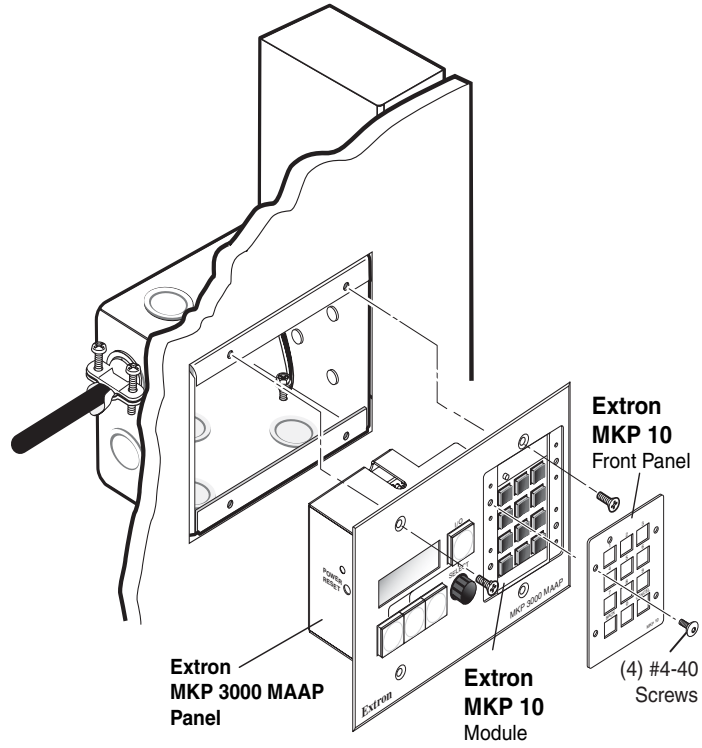

Figure 2-19 — Mounting the MKP 10 MAAP
1. Sandwich the MKP 3000 MAAP panel between the MKP 10 MAAP module (without its front panel) and the MKP 10 MAAP's front panel. Secure the front panel to the module with the included #4-40 screws (see figure 2-19).